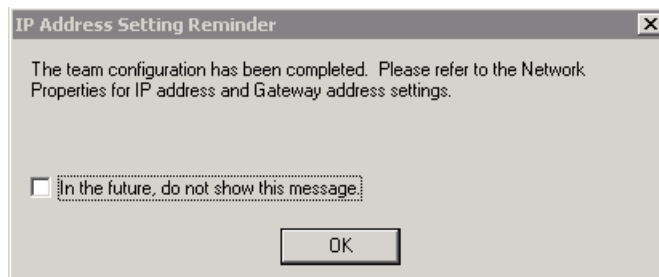

Figure 5-37 Reminder to set the IP address
- Click **OK** to set IP address reminder (Figure 5-37).